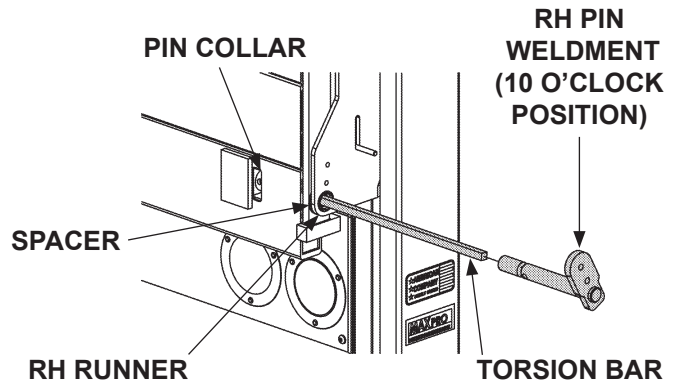

FIG. 23-1
6. With platform in vertical position, insert the torsion bar into the RH pin weldment, through RH runner, platform spacer and pin collar, and engage with torsion bar housing weldment (**FIG. 23-1**).